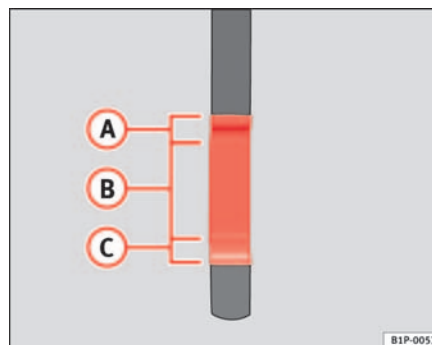

Fig. 136 Engine oil dipstick.
- Pull the dipstick out again and check the oil level ⇒ page 198, fig. 136.
If the oil level is in area ⇒ page 198, fig. 136 **A**, do not top up with oil.